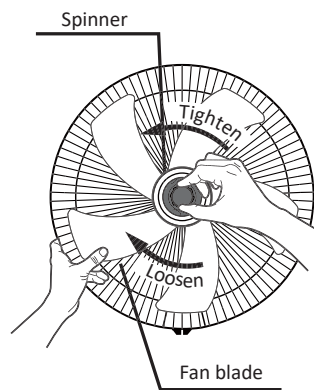

Fig. 2
2. Mount the fan blade to the motor shaft and make sure that the grooves at the rear of the blade are aligned with the stopper pin on the shaft. Fix the blade with the spinner by rotating it counter-clockwise (tighten). (Fig. 2)